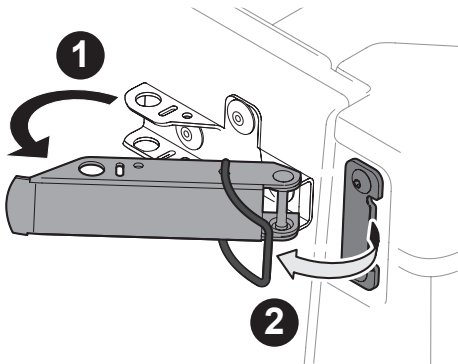
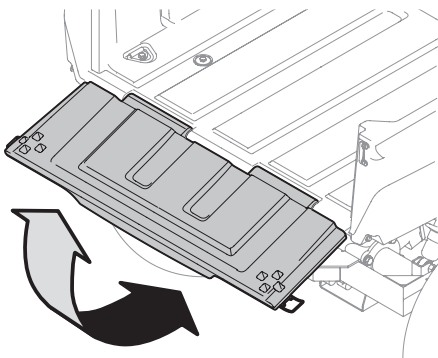
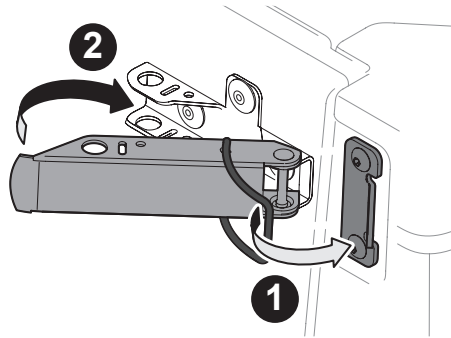

Figure 3-7
Figure 3-8
Figure 3-9
1. Unlatch the tailgate from cargo bed and lower. See Figure 3-7 and Figure 3-8.
2. Raise and re-latch the tailgate to the cargo bed. See Figure 3-8 and Figure 3-9. Do not drive the vehicle with tailgate in the lowered position.